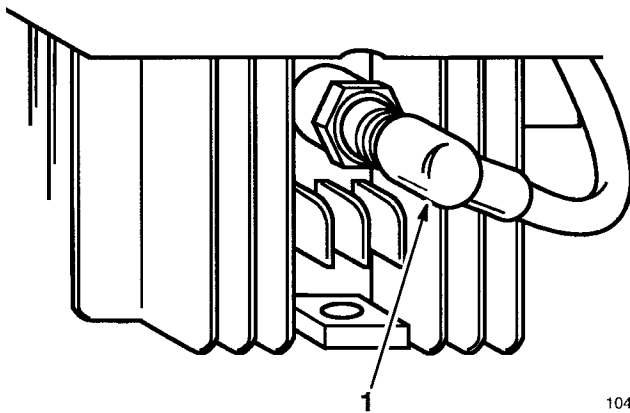

Figure 10
2. Connect spark plug wire (if disconnected) (Fig. 10).